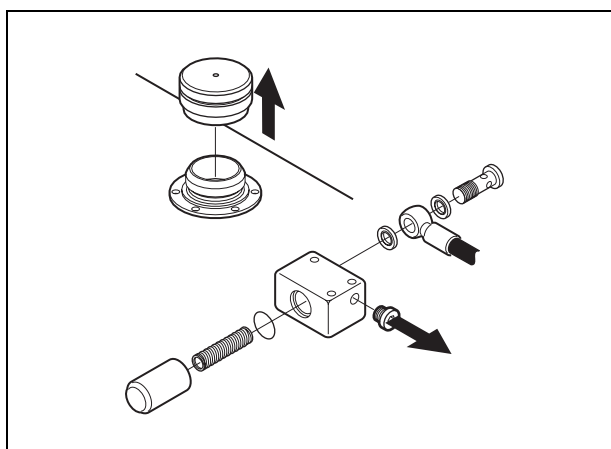

Fig. 42 Bleeding chain lubrication system
2. Remove the plug on the lubrication oil pump. *See Fig. 42.*